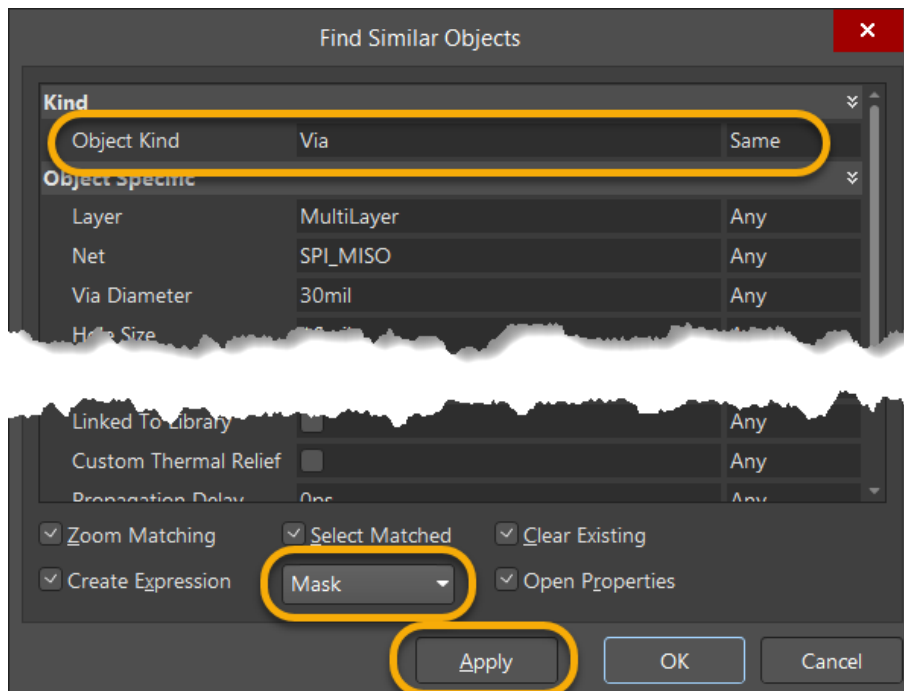

Figure 8. FSO for the selected Via
29. The *FSO* dialog will appear, displaying via parameters as shown in Figure 8 below. Note that by default the *Object Kind* is set to a scope of **Same**.